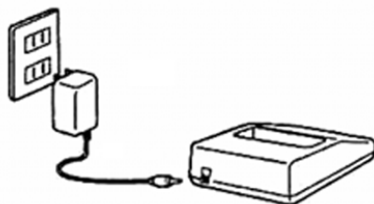

Figure 3-4d
- 4 Connect charger to power receptacle (Figure 3-4d).